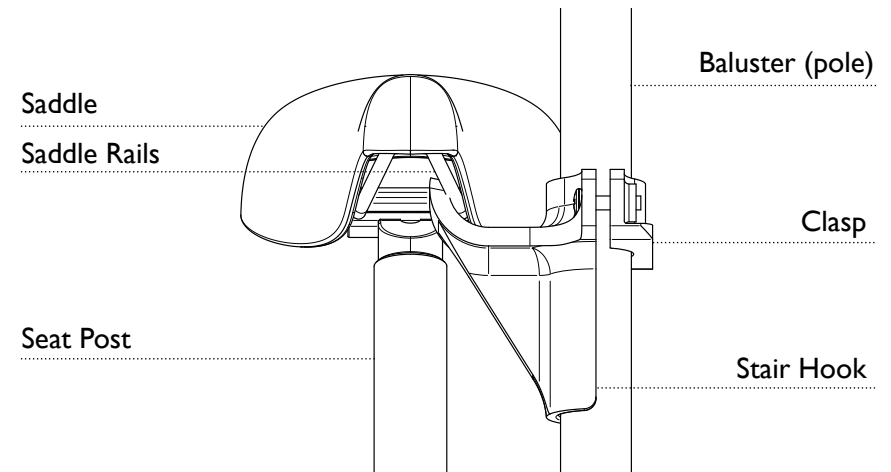

Figure 2 - Usage
1. Suspend your bicycle by resting one or both of its saddle rails onto Stair Hook (Figure 2). Only utilise the portion of the saddle rails which are ahead of the seat post.
2. Ensure your bicycle's saddle rails are exposed for engagement with the hook (Figure 2).